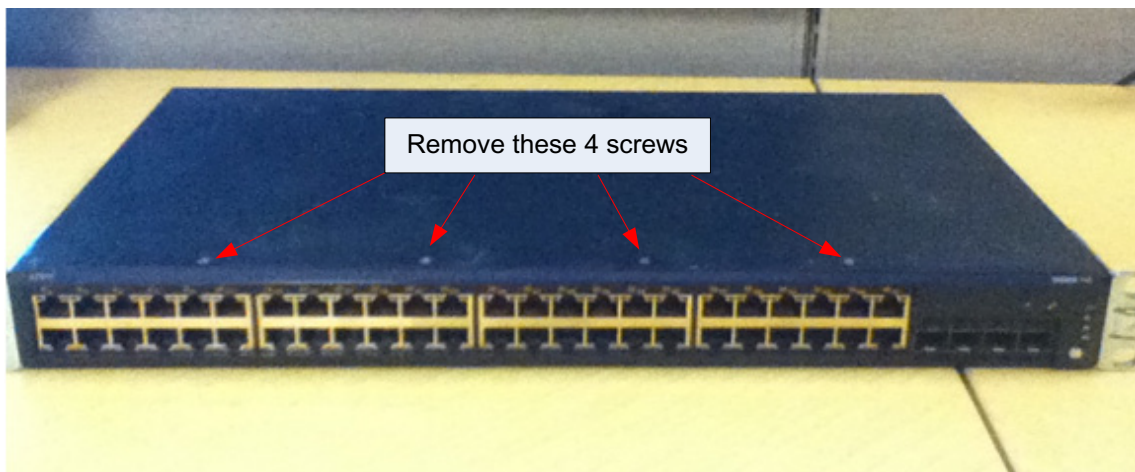

Figure 3-1: EX2200 Top side screws
1. Remove the four screws from the top of the system (Figure 3-1)